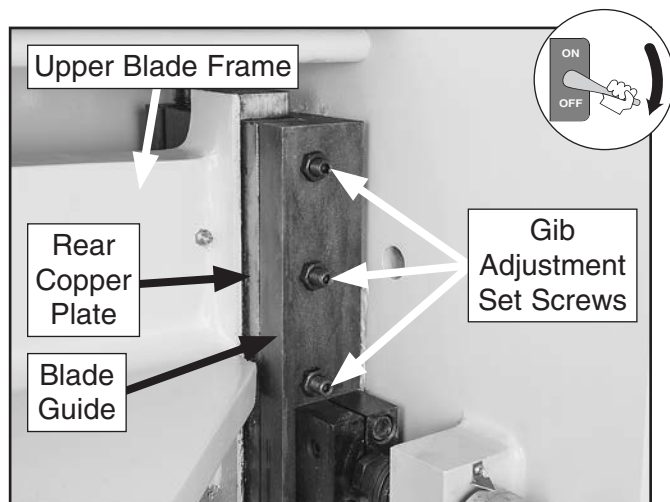

Figure 64. Gib adjustment controls (right side).
There are four copper plates on each side of the upper blade frame that ride between the blade guide and upper blade frame—two front, two rear (see **Figure 64**). They are made of copper so the plates wear instead of the frame. The rear copper plates act as gibs that apply pressure to keep movement of the upper blade tight and precise within the blade guide.
2. Loosen (6) hex nuts on gib adjustment set screws (see **Figure 64**).
3. Tighten all (6) gib adjustment set screws evenly until gibs are snug against copper sliding plates, then back off gib adjustment set screws $\frac{1}{8}$ turn.